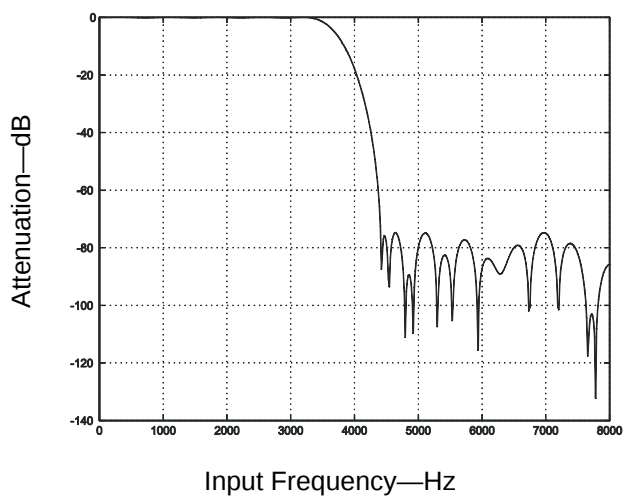

Figure 2. FIR Receive Filter Response
**Note:** Typical FIR filter characteristics for Fs = 8000 Hz are shown in Figures 2, 3, 4, and 5.
For Figures 2–5, all filter plots apply to a sample rate of